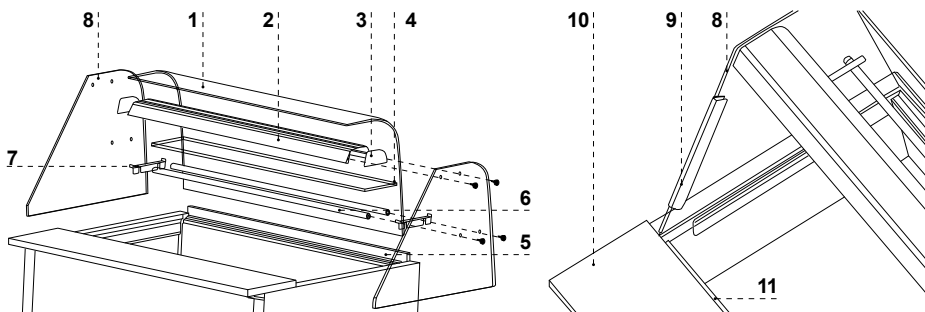

Fig.7 Assembly of glass elements and aluminium lamp
1. Mount glass sides Fig.7/8
2. Mount the aluminium lamp (together with lighting) on glass sides Fig.7/2
3. Mount the front glass, basing it on the lamp and glass sides Fig.7/1
4. Mount the casing of lamp conduit Fig.7/9 Move the casing of lamp conduit to the back of the glass side, in order to hide the conduit coming out of the lamp in the casing and to place it on the internal part of the glass side.
5. Mount aluminium profiles under the glass shelf (optional) Fig.7/6
6. Mount the glass shelf Fig.7/4